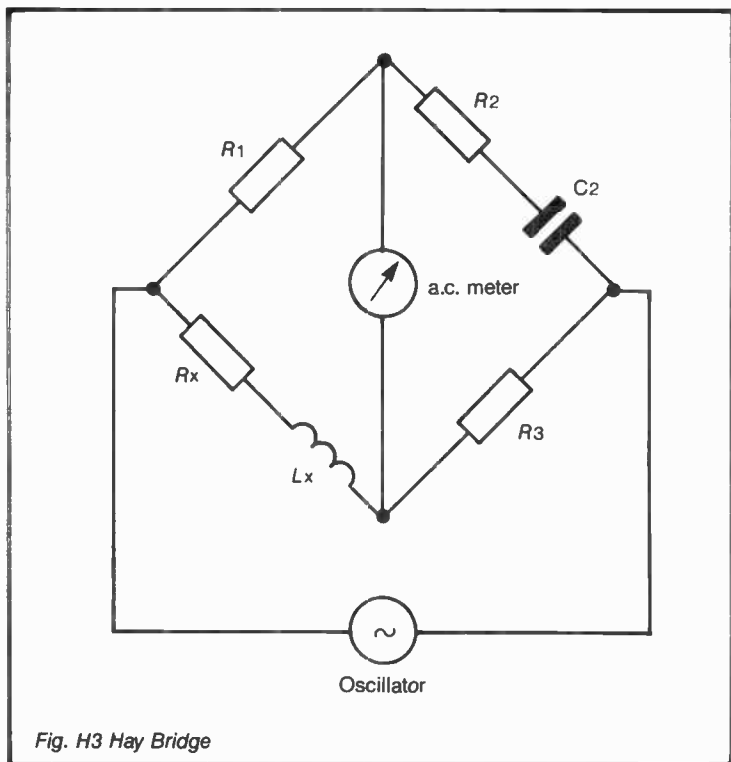

Fig. H3 Hay Bridge
**HAY BRIDGE** is an a.c. bridge network suitable for measuring inductances with high Q-factors. The circuit is shown in Figure H3. The Hay bridge is similar to the Maxwell bridge except that the